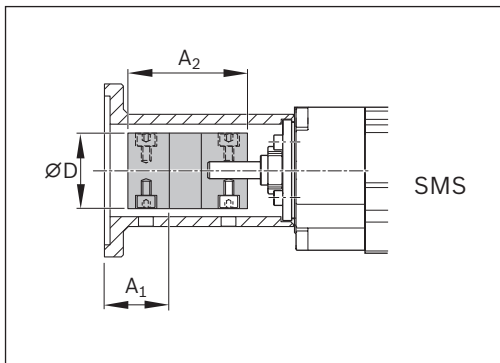

Fig. 9: Dimensions $A_1/A_2/D$
1. Push the flange (1) into/onto the locating feature on the product and screw it down onto the end block (3) using screws (2).
2. Insert coupling (4) into the flange on the screw journal (5) of the product and set dimension A_1 ➡ Fig. 9 and Table 5.
3. Tighten the screws (6) of the coupling.
4. Push the motor into the locating feature of flange and coupling and fasten with screws (8) and washers (9).
5. Tighten the screws (7) of the coupling.
6. Mount the flange cover panels (10).